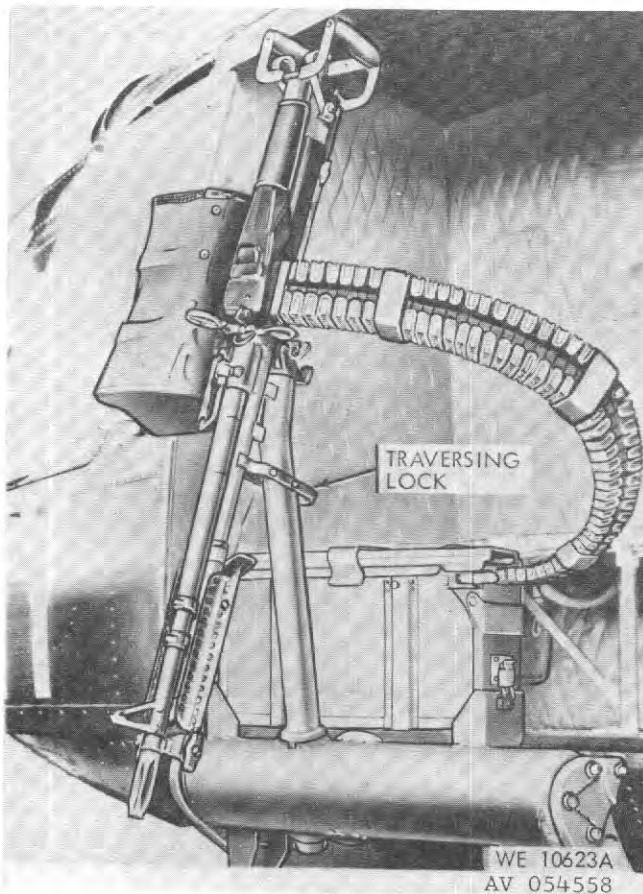

Figure 6-10. Armament subsystem M23 installed - machine gun M60D in stowed position - right side shown
b. A spring-type traversing lock mounted on the pintle post assembly, is used to stow machine gun M60D in muzzle-down position (figure 6-10).